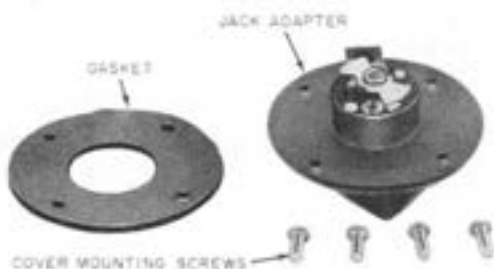

Fig. 49—B Waterproof Female Jack Adapter
5.06 Mount the B weatherproof female jack adapter (Fig. 49 and 50) on an existing KS-8421 jack housing after the old jack and cover plate are removed. Use the four mounting screws and cover gasket provided. Three screw terminals stamped T, R, and GR provide for connection to tip, ring, and ground. Wire tip and ring of jack to the tip and ring terminals of the protector. Connect a 14-gauge ground wire from ground terminal of protector to center ground terminal of jack.